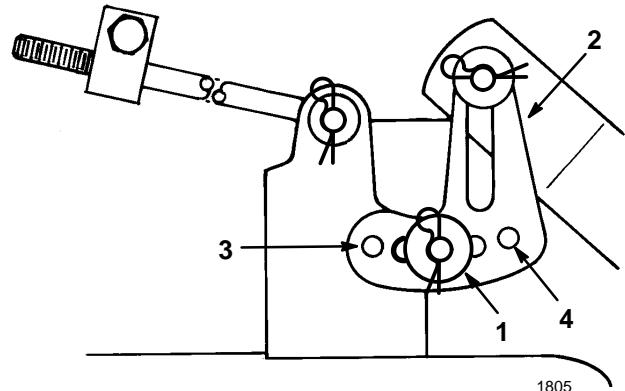

Figure 43
5. Remove the hair pin cotter and washer from the leveling bracket (Fig. 43). To level the blade(s), reposition the leveling bracket in a different hole and install the washer and hair pin cotter. (Fig. 43). A front hole lowers the blade height and a rear hole raises its height. Repeat this procedure on the opposite side.